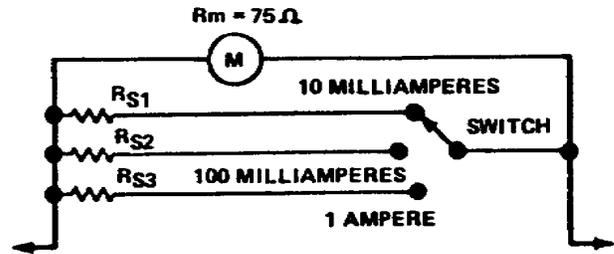

Figure 1-14. Determining shunt resistors
(3) Calculations such as those involved in this example enable you to determine the size of the shunt required to extend the range of an ammeter. Although in actual practice you seldom make these calculations, you must know how meters having the same movement are constructed with different ranges, and how a range switch on the same meter changes the current range of the meter.
(4) Assume that you want to make an ammeter with the ranges of 0 to 10 milliamperes, 0 to 100 milliamperes, and 0 to 1.0 ampere, as shown in Figure 1-14. Also assume that the meter sensitivity is 1 milliampere and the coil resistance is 75 ohms.
(5) You can determine the values for  $R_{s1}$ ,  $R_{s2}$ , and  $R_{s3}$  since the shunt and meter form a simple parallel circuit. As you know, the voltages across the shunt and meter are equal, as in the following formulas:
(6) Where  $R_s$  is the shunt resistance, " $I_s$ " is the current through the shunt at full-scale deflection,  $R_m$  is the coil resistance, and  $I_m$  is the current through the coil for full-scale deflection. Thus, the shunt resistance required to produce the ammeter shown in Figure 1-14 are 8.33 ohms, 0.758 ohm, and 0.0751 ohm respectively.